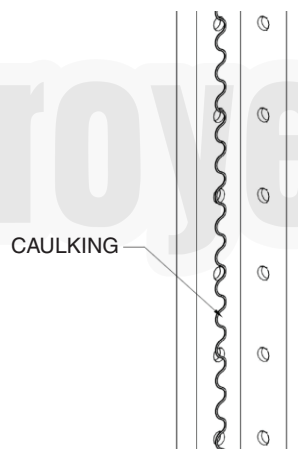

Fig. 6 — Caulking Split Panel Flanges
- Caulk where indicated on both sides of split panel and roof flanges, and bolt the base together. See Fig. 6.